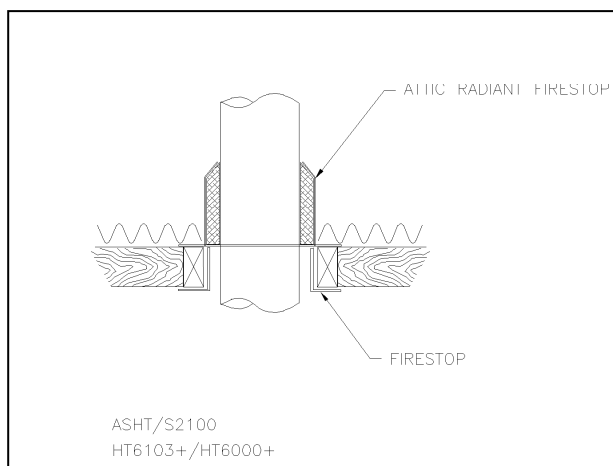
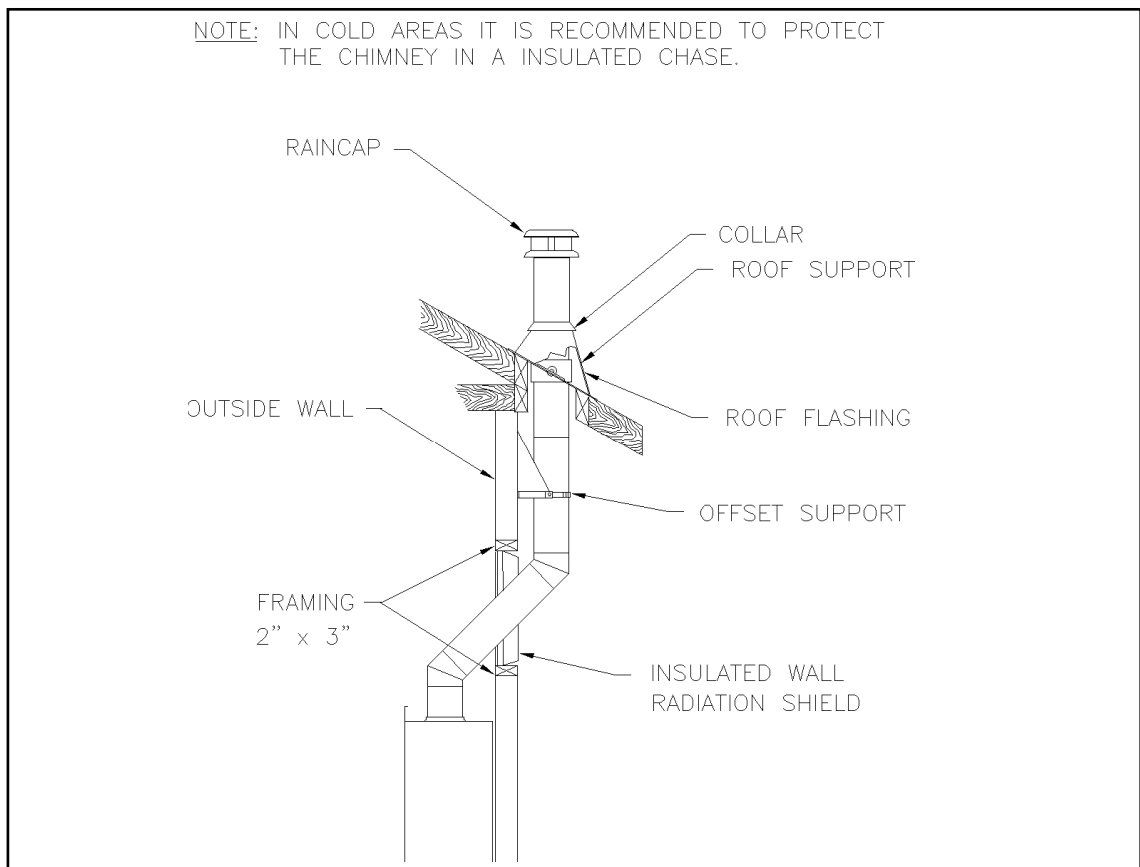

Figure 28
Figure 34
- From below, install a firestop in each ceiling/floor separation through which the chimney will pass. At the attic level, install an attic radiation shield from above. (figures 28 & 29).
1. Install the first elbow; turn it in the required direction. Fasten it to the chimney with the three (3) ½" (12 mm) metal screws provided with the elbow.
2. Install the necessary chimney lengths to achieve the required offset. Lock the chimney lengths together: it is recommended to use three (3) ½" (12 mm) screws. If the offset length is made of two (2) chimney lengths or more, use an offset support halfway up the offset. If penetrating a wall, install a wall radiation shield (see figures 34 & 35).
3. Use another elbow to turn the chimney vertically. Secure the elbow, using three (3) ½" (12 mm) screws (provided with the elbow).
5. From below, install a firestop (See figure 28).